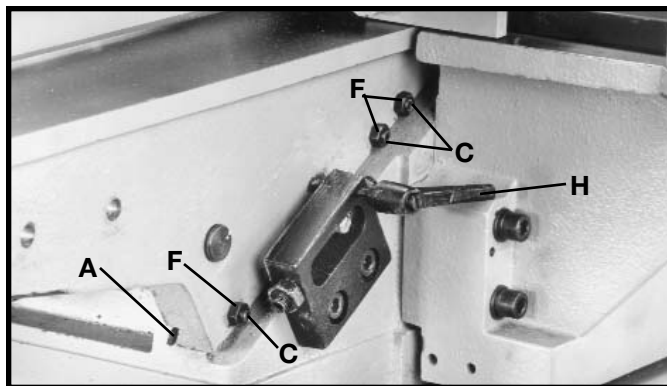
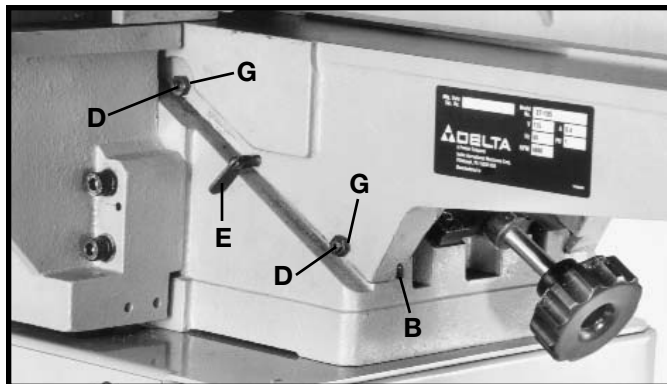

Fig. 46
Fig. 47
“Gibs” are provided to take up all play between the mating dovetail ways of the base and the infeed and outfeed tables. The “gib” for the infeed table is shown at (A) Fig. 46, and the “gib” for the outfeed table is shown at (B) Fig. 47. Proper “gib” adjustment is necessary for the correct functioning of the jointer. The “gibs” were adjusted at the factory and should require no further adjustment. If, however, it becomes necessary to adjust the “gibs”, proceed as follows:
1. To adjust the infeed or outfeed table “gibs”, loosen three locknuts (F) Fig. 46, for the infeed table or two locknuts (G) Fig. 47, for the outfeed table. For the infeed table, make sure the table locking lever (H) Fig. 46, is loose. For the outfeed table, make sure the table locking screw (E) Fig. 47, is loose.
2. Tighten or loosen three gib adjustment screws (C) Fig. 46, as necessary for the infeed table or two gib adjustment screws (D) Fig. 47, as necessary for the outfeed table; starting with the lower screw first and as you proceed to the top screw, gently raise the outboard edge of the table that is being adjusted. This will offset any tendency for the table casting to “droop or sag” and permit the gib to be adjusted to a secure fit. After the gib adjustment screws have been adjusted, tighten locknuts (F) Fig. 46, (G) Fig. 47, table locking screw (E) Fig. 47, and infeed table locking lever (H) Fig. 46.